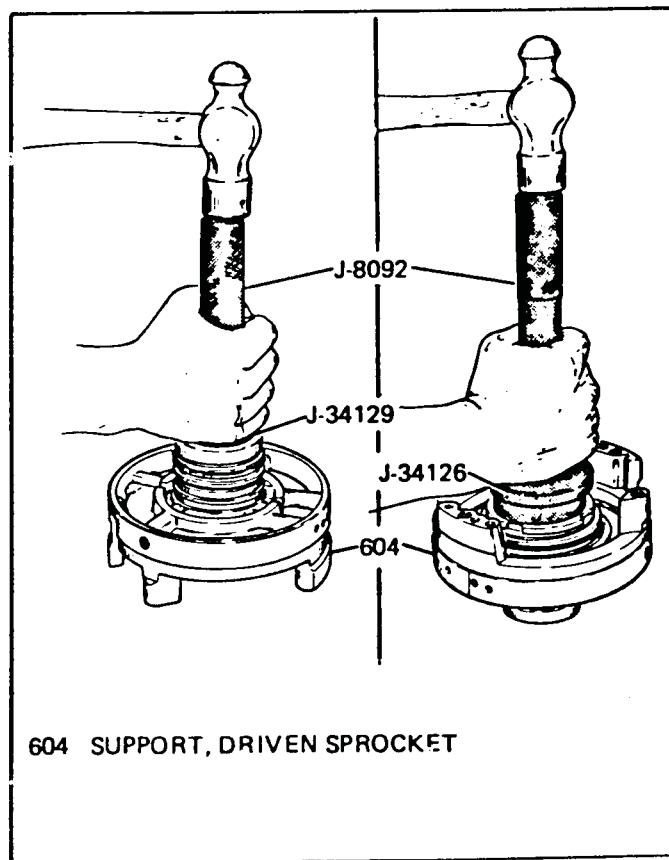

Figure 82
1. Use the tools shown in Figure 82 to remove and replace driven sprocket support bearing.